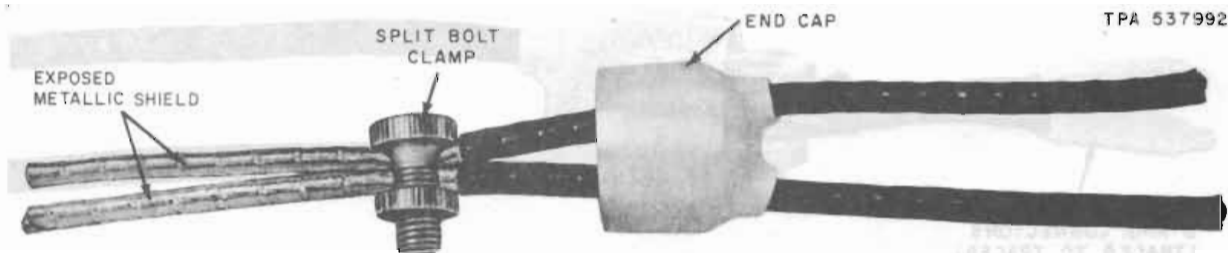

Fig. 27—Installed Split-Bolt Clamp
- (2) Install the split-bolt clamp on the exposed metallic shield of the two service wires. Hand tighten the knurled nut (Fig. 27).